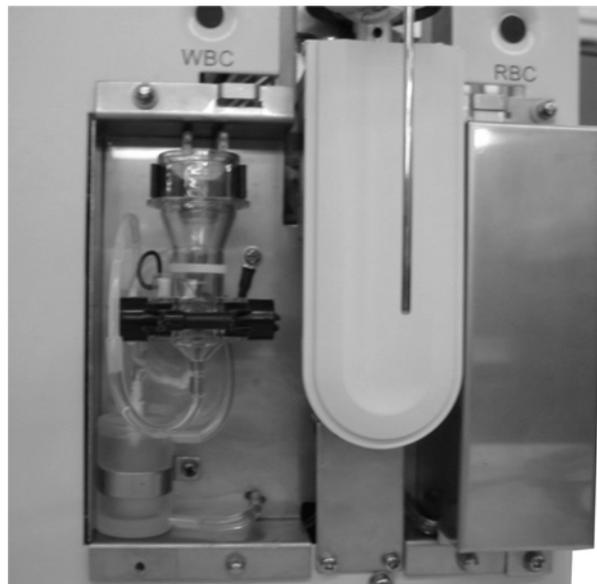

Figure10-18 WBC bath
4. Remove the shielding box to expose the bath, as Figure10-18 shows.